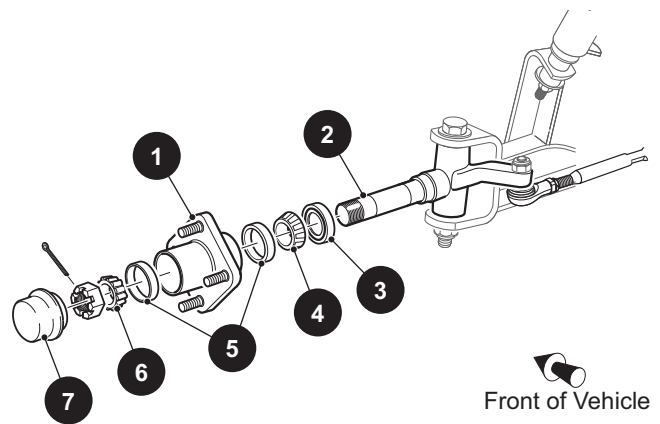

Figure 10 Wheel Bearing Replacement
1. Remove hub (1) from spindle (Ref. Figure 10). See the *Hub Replacement* on page 53.
2. Remove the grease seal (3), inner wheel bearing (4) and bearing races (5) by tapping, through the other side of hub, the bearing race using a hammer and a soft non-ferrous punch. Tap race in a circular pattern while moving from side to side to avoid damaging bore of hub.